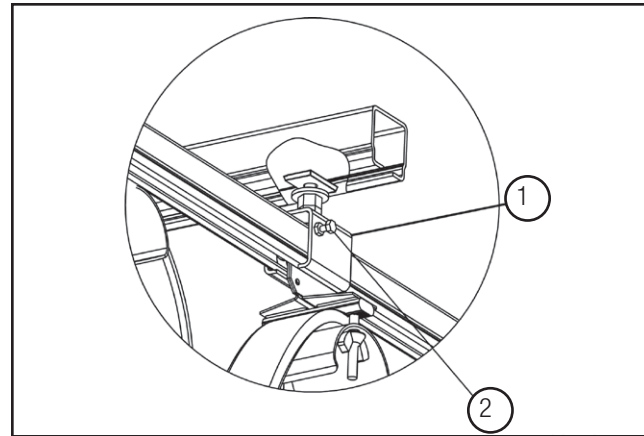

Figure 8-1
1. Tighten screw until it contacts C-Track then turn 1/4 past to ensure clamping. Tighten nut down to 12 ft/lbs. to lock bolt into place. See **Figure 8-1**.
2. In the center of the system, place an Anchor Clamp instead of a Track Hanger Clamp to anchor the system. The C-Track is now positioned into place. See **Figure 8-1**.